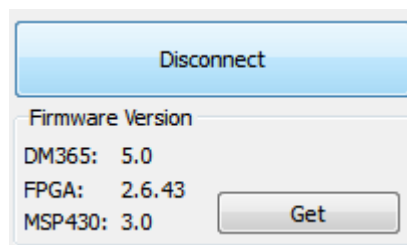

Figure 2-2. DLP LightCrafter GUI Disconnect Button
5. Click the Disconnect button before disconnecting the USB cable between DLP LightCrafter and the computer. See Figure 2-2.